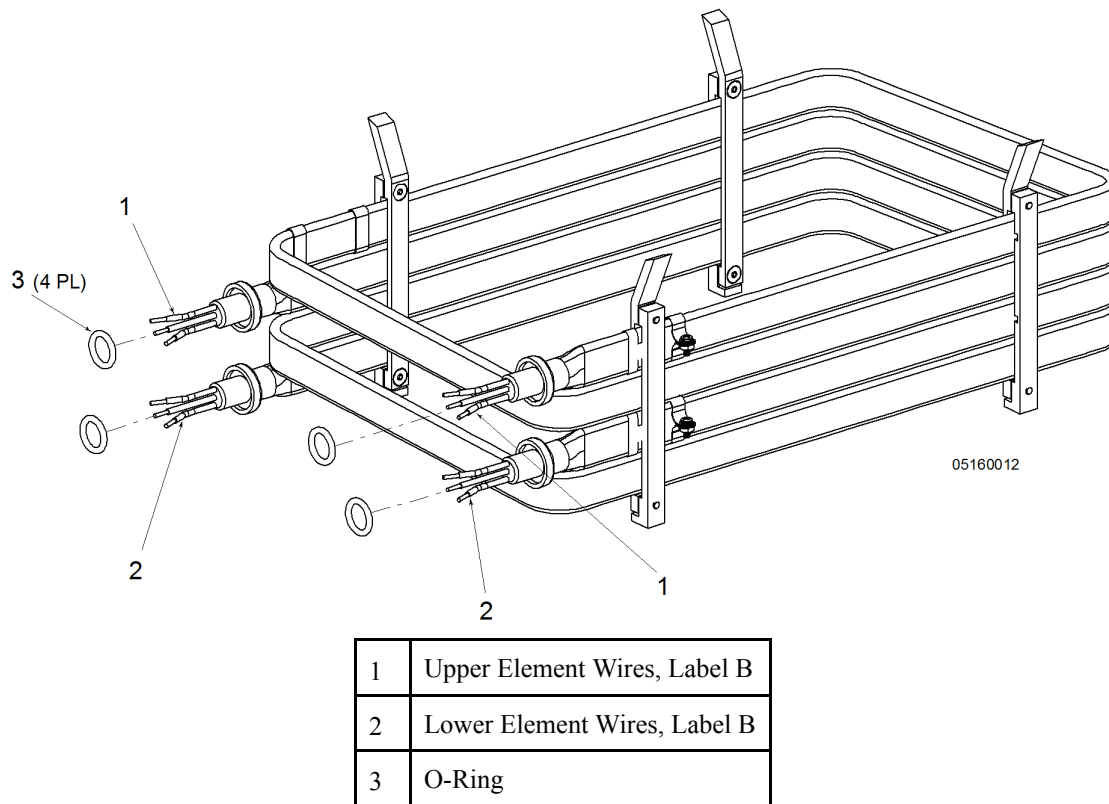

Figure 4-7 Heating Element Assembly O-Ring Installation
- 12) Place four o-rings (3) over the wires onto the four connectors (see Figure 4-7 Heating Element Assembly O-Ring Installation).
- 13) Label the wires (1) on the upper heating element B and label the wires (2) on the lower heating element A.